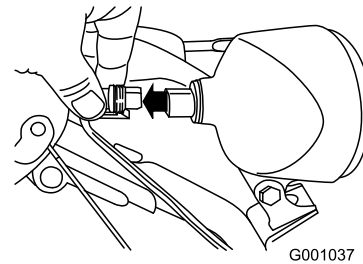

Figure 58
1. Remove the wire connector from the back of the headlight (Figure 58).